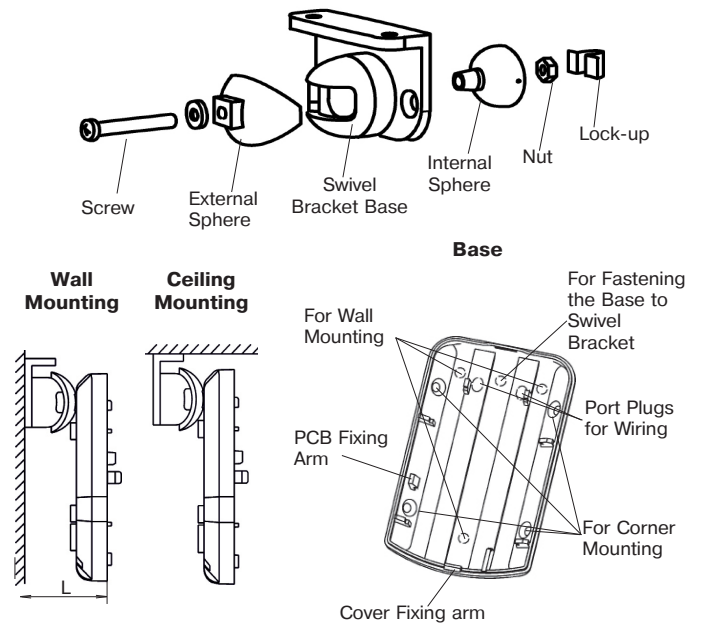

Figure 2 – The Detector Base and Swivel Bracket
- Unfasten the latch at the underside of the detector case by means of screwdriver and remove the detector cover (Figure 2).
- Drill holes in the detector base (Figure 2) for wires installation and for the detector fastening.